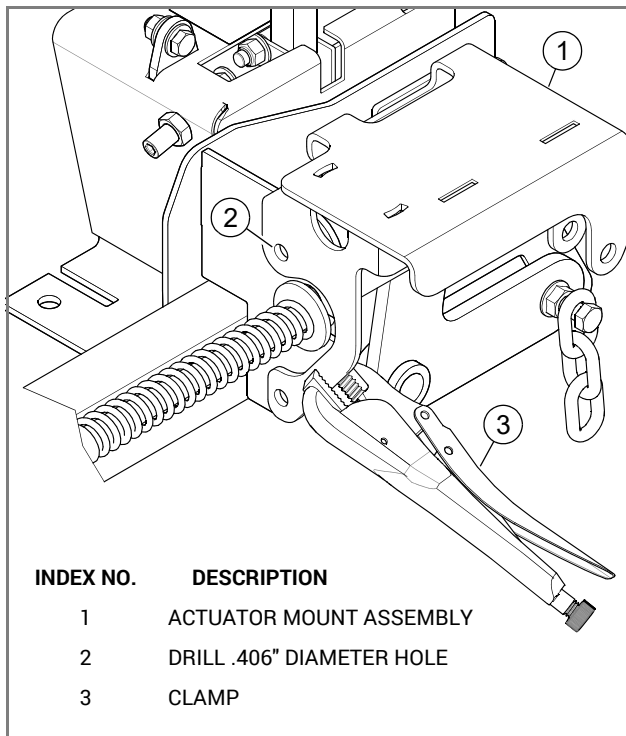

FIG. 8
13. Clamp the actuator mount assembly in position. FIG. 8
14. Using the actuator mount assembly as a drill guide, drill two .406" diameter holes through the mounting plate of the mower. FIG. 8